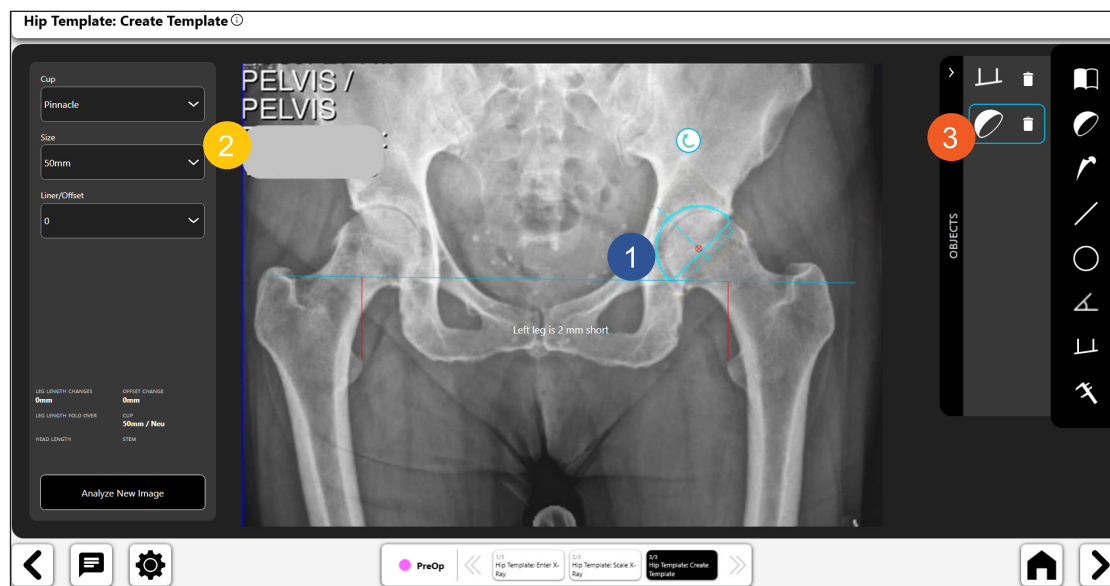

Figure 28: Create Template Screen - Acetabular Cup Tool
- Figure 28, No. 3 shows a 'toggle icon' for the acetabular template, showing that it is activated. You can delete the template by selecting the trash can icon displayed within the toggle icon.